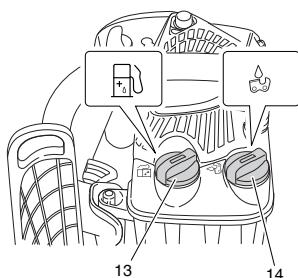

Fig. 9
#### **WARNING (Fig. 9)**
### Chain oil (Fig. 9)
When pouring fuel (13) or chain oil (14) into the tank, place the unit with cap side up. (Fig. 9)